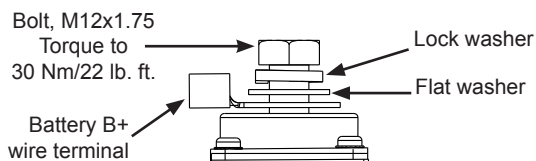

Figure 2: B+ Terminal Hardware Stacking Order
5. Connect vehicle B+ cable to alternator B+ terminal. Install hardware on B+ terminal in stacking order shown in Figure 2. Torque to 30 Nm/22 lb. ft.